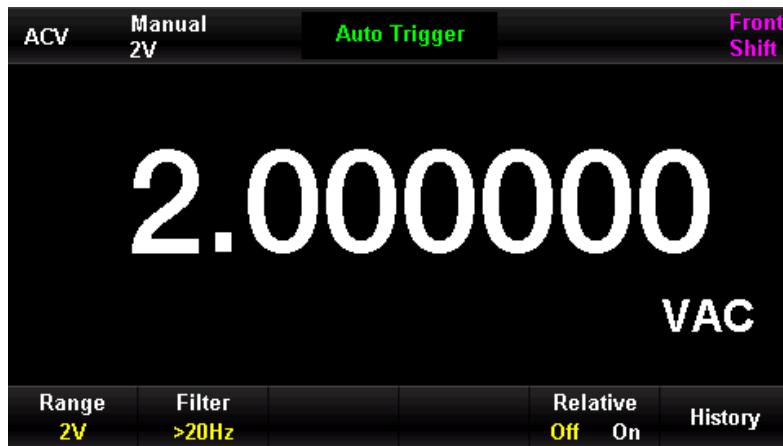

Figure 0-14 AC Voltage Measurement Menu
1. Press the  key on the front panel to enter the AC voltage measurement menu, as shown in Figure 0-14.